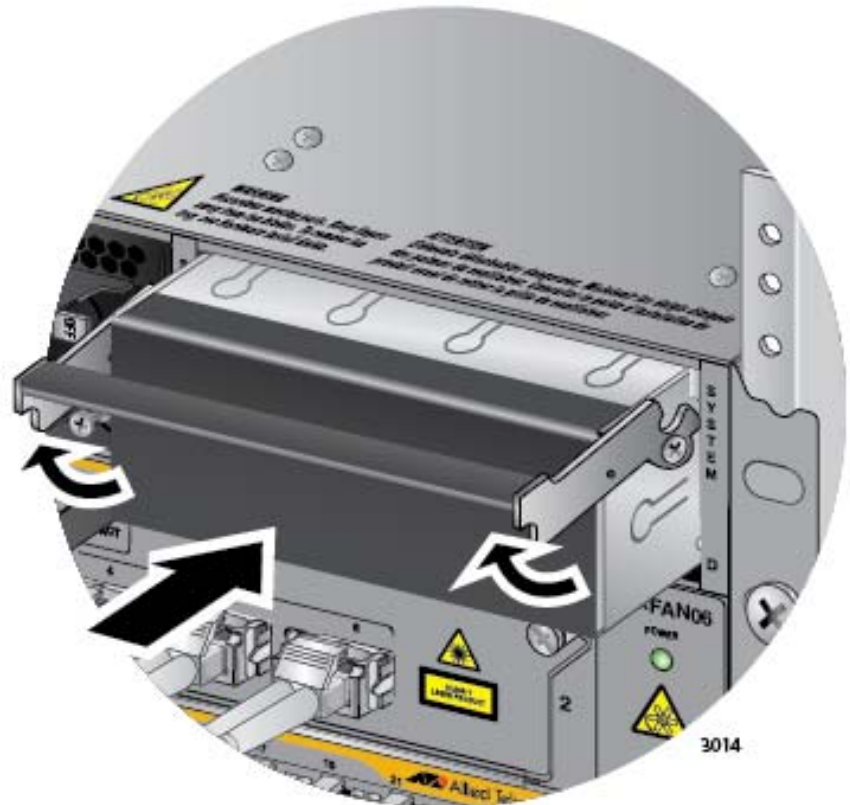

Figure 161. Installing a Blank Power Supply Slot Cover
13. Place the locking handle on the slot cover in the up position and slide the cover into the empty power supply slot. Refer to Figure 161 on page 253.